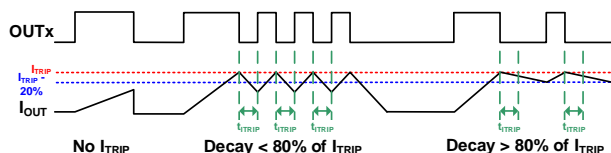

Figure 2: Current Regulation
2. The load current (I_{LOAD}) increases, which is sensed by the internal current-sense (CS) circuit.
4. After a fixed off time (t_{ITRIP}), if I_{LOAD} falls $\geq 20\%$ below the current limit threshold, the MOSFETs are re-enabled and the cycle repeats (see Figure 2).